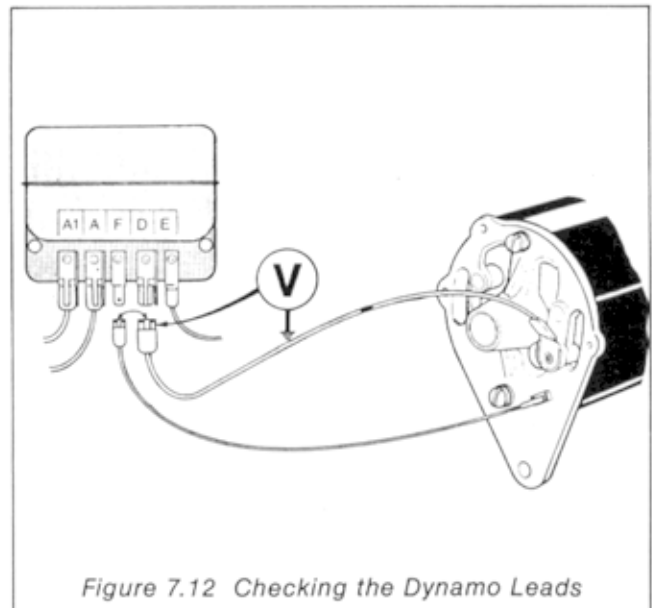

Figure 7.12 Checking the Dynamo Leads
**Dynamo Leads Check (Figure 7.12)**